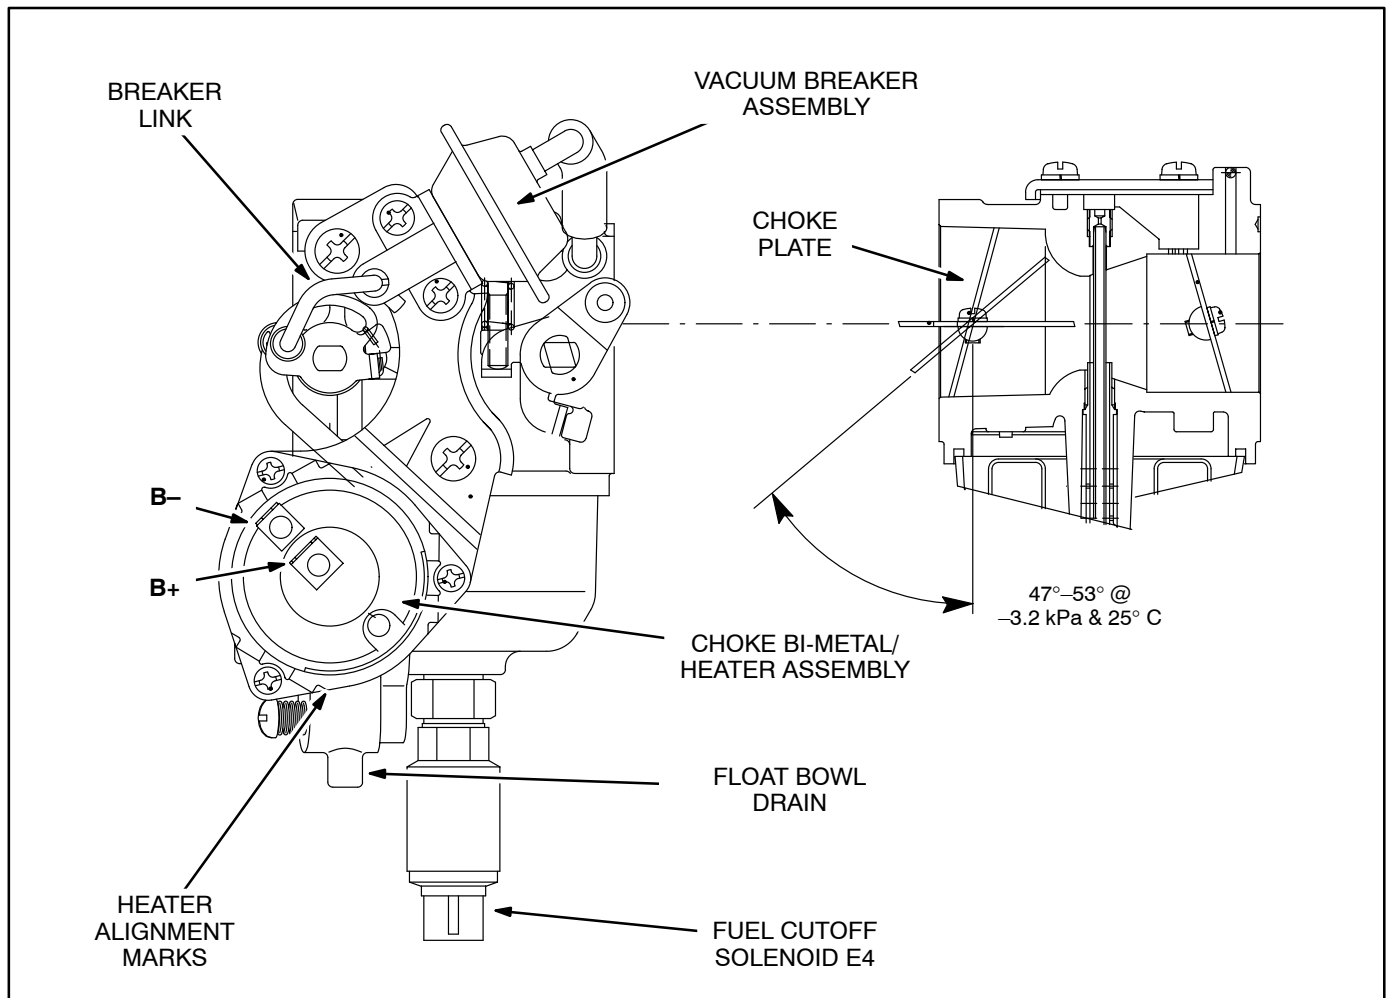

FIGURE 8-10. CARBURETOR / CHOKE ASSEMBLY
3. Disconnect the leads to the choke heater and fuel cutoff valve (Figure 8-10).
The carburetor (Figure 8-10) is not likely to cause problems and should be replaced only after all other problems have been eliminated (see Section 11. *Troubleshooting*). The carburetor fuel mixture adjustments are sealed at the factory. See Page 8-20 to connect the throttle link and to adjust the idle (throttle) stop screw.
The automatic choke is operated by a bi-metal/heater assembly and a vacuum breaker assembly (Figure 8-10). Conduct the following checks and adjustments before replacing a carburetor/choke assembly:
3. The vacuum breaker diaphragm must not leak under a vacuum of 30 inches Hg (100 kPa). It should not take a vacuum greater than 2.4 inches Hg (8 kPa) to open the choke fully. At a vacuum of 1 inch Hg (3.2 kPa) the choke plate should be at the angle shown (Figure 8-10). If necessary, bend the link at the point shown, using two pliers.
The fuel cutoff solenoid is threaded into the bottom of the carburetor float bowl (Figure 8-10). If the engine does not start because it is not getting fuel, but fuel can be drained from the carburetor float bowl, the solenoid probably is not opening and should be replaced. To remove and replace the cutoff solenoid: